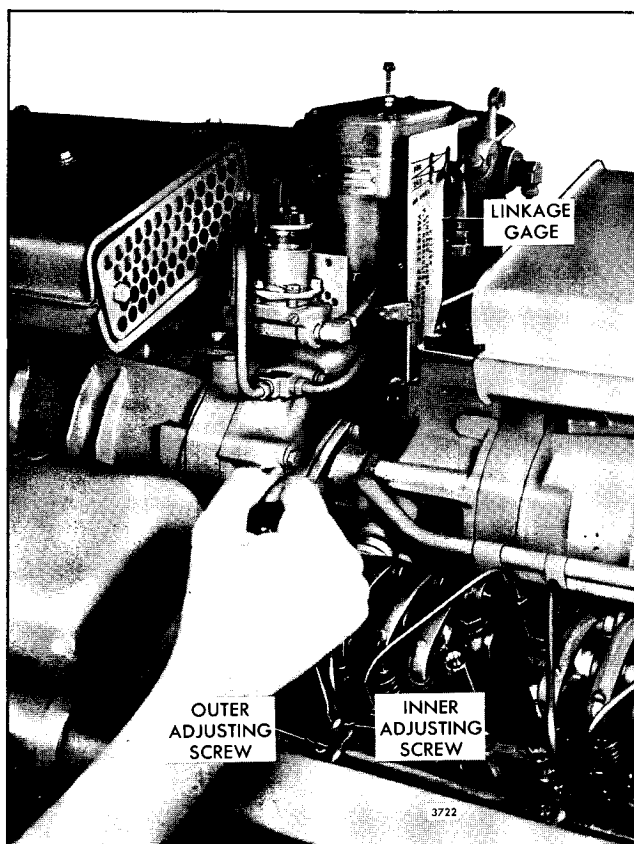

Fig. 4 - Positioning No. 4R Injector Rack Control Lever
6. Adjust the 4R injector rack by turning the inner adjusting screw down until it bottoms on the control tube (Fig. 4). Turn down the outer adjusting screw until it also bottoms on the control tube. Then tighten both the inner and